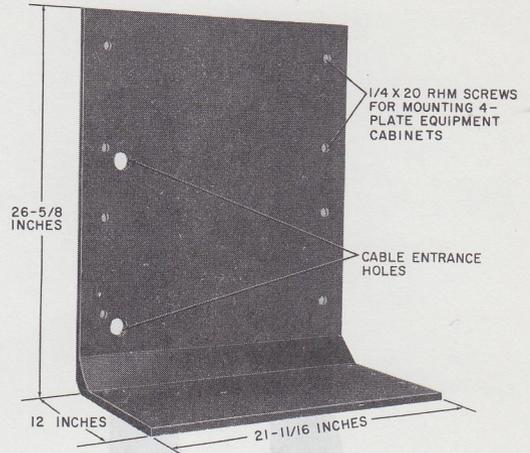

Fig. 27—Floor Stand per ED-91296-70
6.02 The floor stand per ED-91296-70† (Fig. 27) is a metal stand for mounting two 4-plate apparatus cabinets, one over the other.